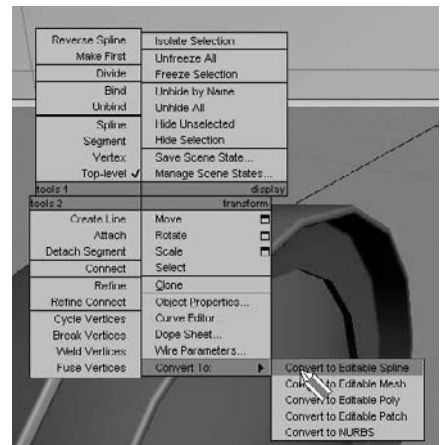

Figure 5.76
3. Center your cursor over the wireframe of the rectangle and right-click; choose `Convert To → Editable Spline` as shown in Figure 5.76. Converting to an editable spline will give you access to the sub-object modes, as you saw in the previous chapter, and it will let you edit the shape for the detail we need in the thruster.